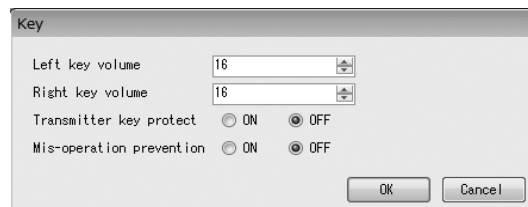

Fig.98
- ① Click "Setup (S)" > "Key" in the menu.
- ② The following window will be displayed (Fig. 98). Set the sensitivity of transmitter keys and other items here.